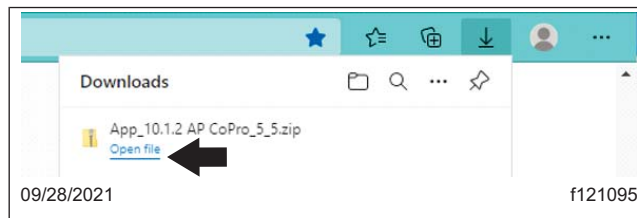

Fig. 5, Link to Open the Downloaded File
6. A download box will now appear on the upper right corner of the browser window. Once the download is complete, Select 'Open File.' See **Fig. 5**.